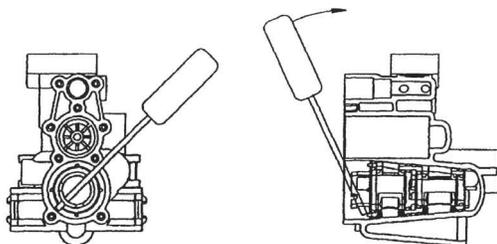

Figure 2
6. With a screwdriver (See Figure 2), insert under rotor and pry rotor from the cage.